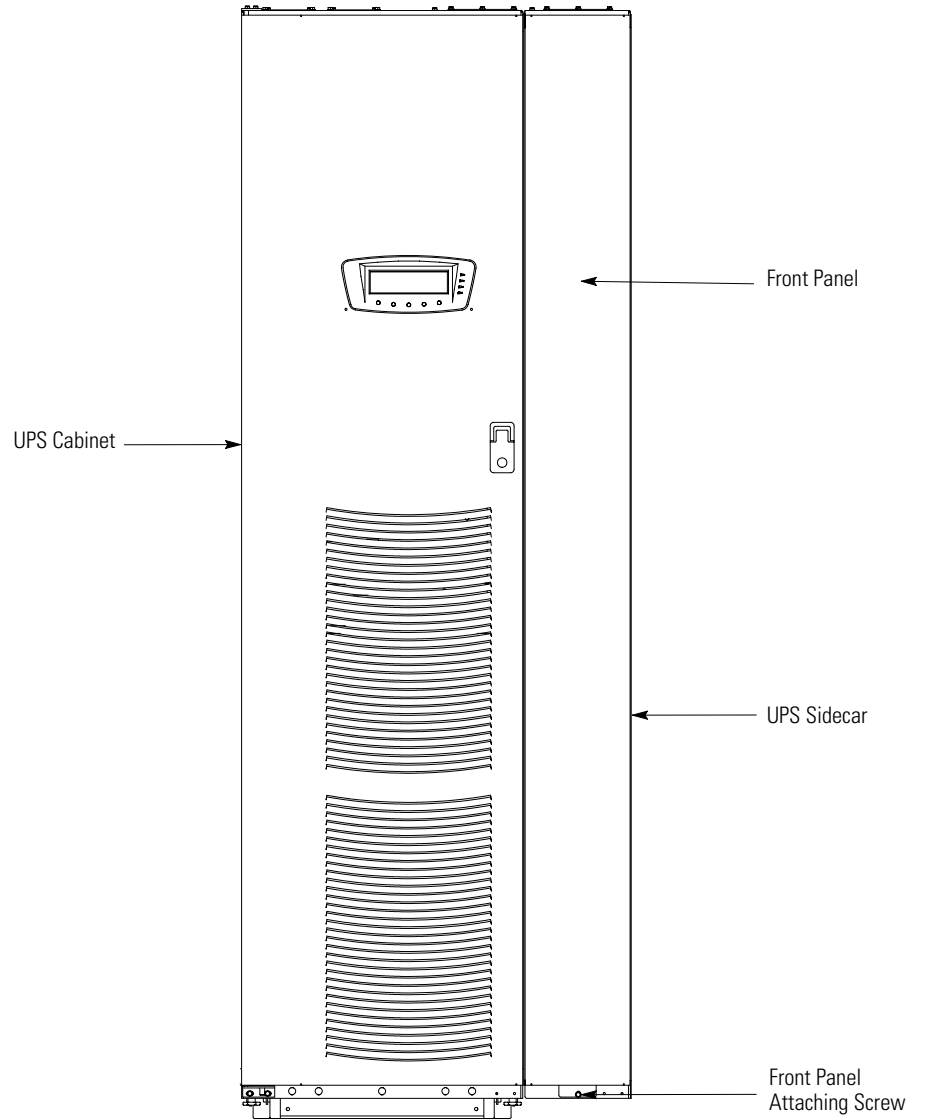

Figure 2-1. 80 kVA UPS with UPS Sidecar
2. If not already removed, remove the screw securing the bottom of the UPS Sidecar front panel (see Figure 2-1). Lift up the panel and remove.
2. On UPM 1, if not already removed, remove the screw securing the bottom of the UPS Sidecar front panel (see Figure 2-1 on page 2-3). Lift up the panel and remove.
2. If not already removed, remove the screw securing the bottom of the UPS Sidecar front panel (see Figure 2-1 on page 2-3). Lift up the panel and remove.